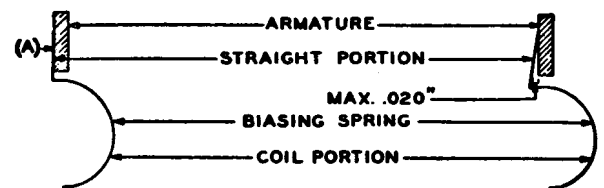

Fig. 103 - Allowable Variation in Biasing Spring Position
- 1.04 Biasing Spring Position** - Fig. 103 (A): Straight portion of biasing spring shall rest approximately flat against armature. Satisfactory if top end rests on armature and clearance, if any, at bottom edge of armature is max.  $.020''$ . Coil portion of spring shall clear armature and soldering lug.